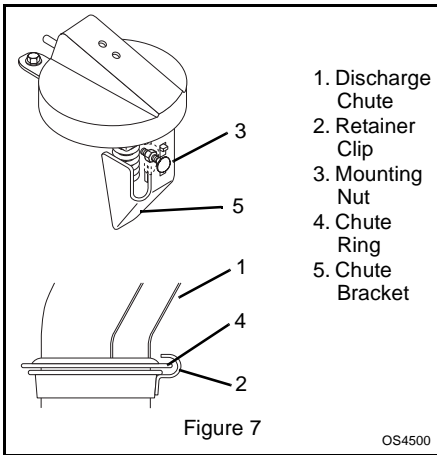

Figure 7
- Loosen mounting nut on chute bracket and move discharge chute up or down until chute ring is centered between retainer clip and chute seat. Tighten hardware (Figure 7).